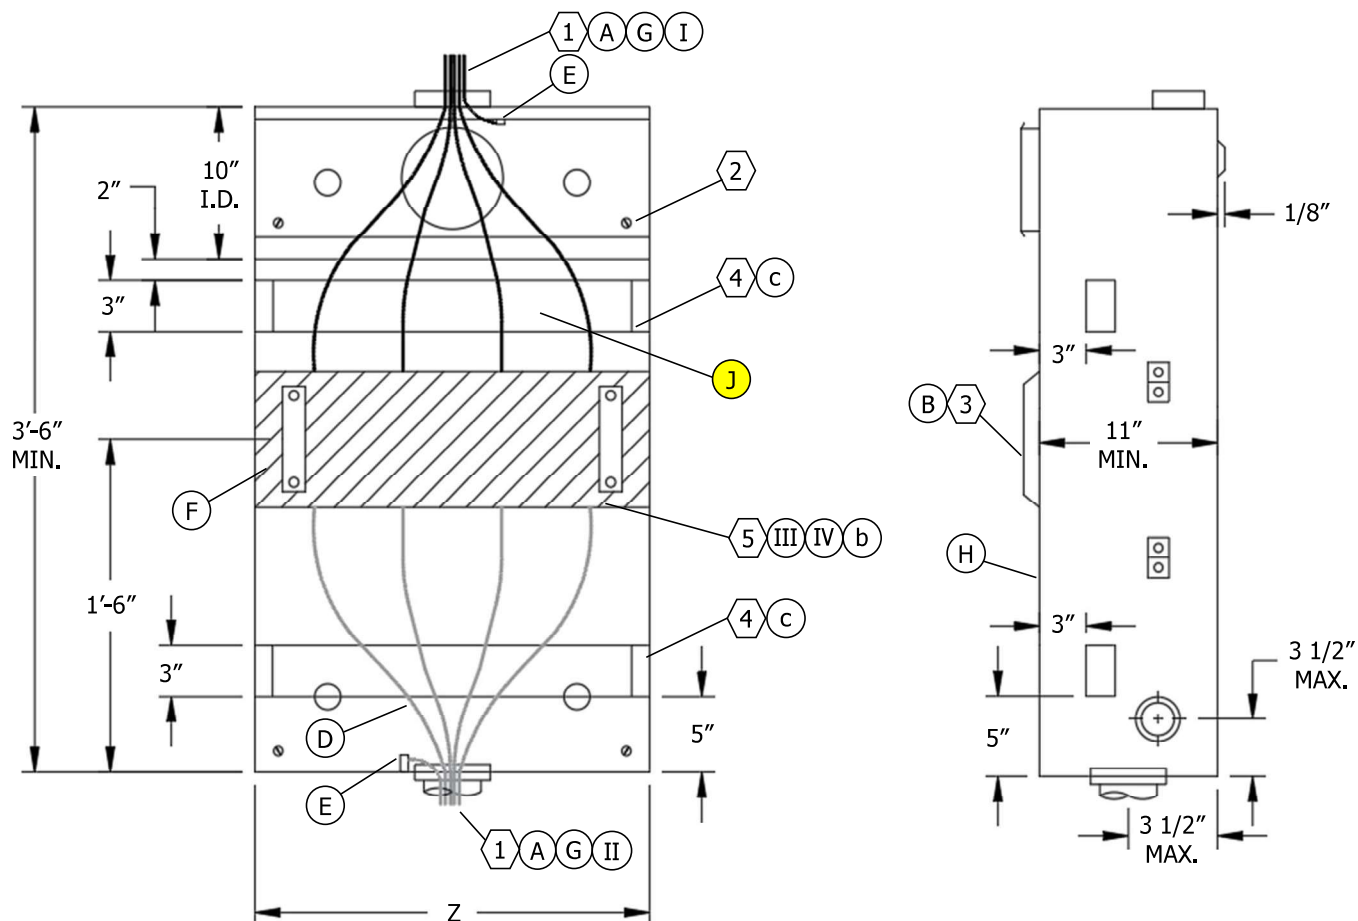

FIGURE 1
- f) FOR TEST-BYPASS BLOCK DETAIL, SEE SG513, FIGURE 1.